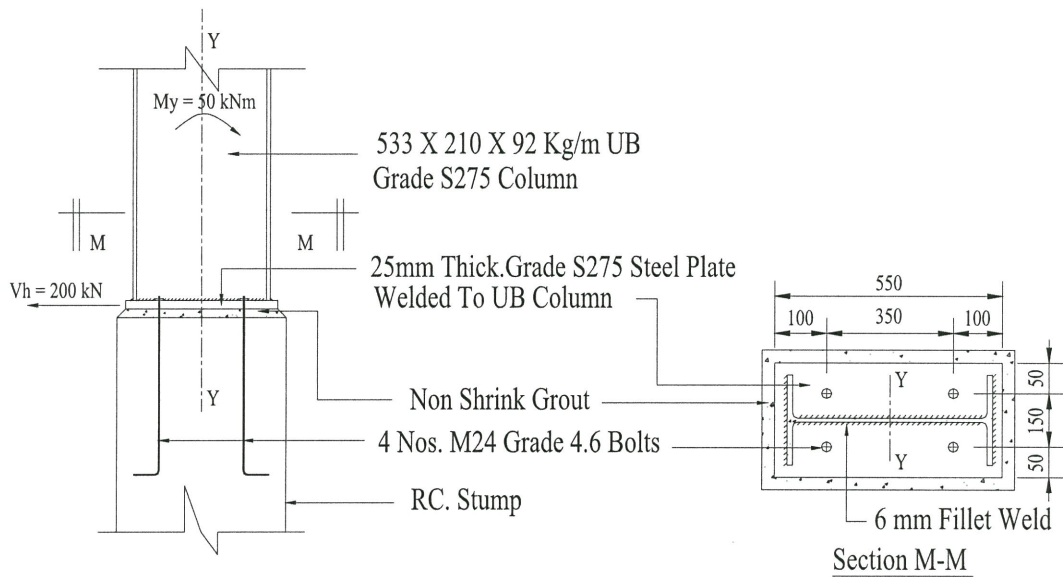

FIGURE Q5
- Q5** Figure Q5 shows the base plate connection of a column using UB section. The connection which comprises of grade 4.6 M24 bolts and 6 mm fillet weld is subjected to design demands of bending moment and horizontal shear force amounting 50 kNm and 200 kN, respectively. The bolts are only required to resist the tensile force due to the design bending moment, while the fillet weld is required to resist the combined shear and tension force due to the design bending moment. Given the tensile area, A_s of M24 bolt is 353 mm^2 , ultimate strength, f_u of steel plate is 410 N/mm^2 , correlation factor, β_w is 0.85 and resistance of 6 mm fillet weld is 1.25 kN/mm . Check the capacity of the bolts and fillet weld and determine whether the connection is adequate in resisting the design demands.